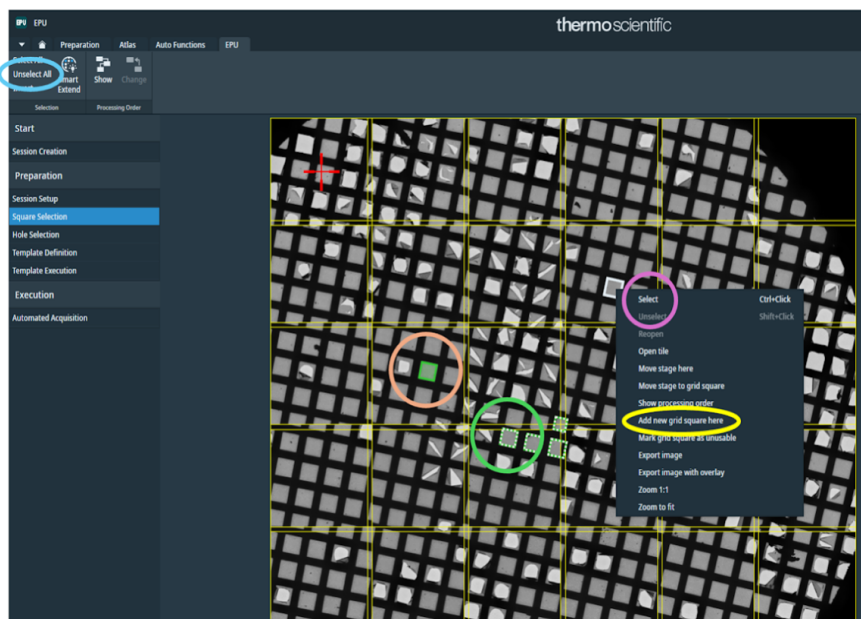

Figure 11: Square selection in EPU.
4.12.4.1. Go to the *Square Selection* tab (Figure 11).